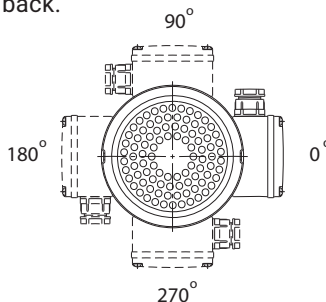

Fig.1
1.10 The position of the motor connecting box is adjustable. Referring to Fig.1, the adjustment can be done by removing the motor fan cover, unscrewing the frame bolts, turning the motor casing and connecting box subassembly together to proper position. Finally, screw the frame bolts tight, and put the fan cover back.